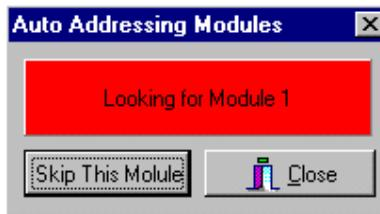

Fig. 51
- 6) Click **Controller Utility** with your left mouse button. A window will appear (fig. 51).